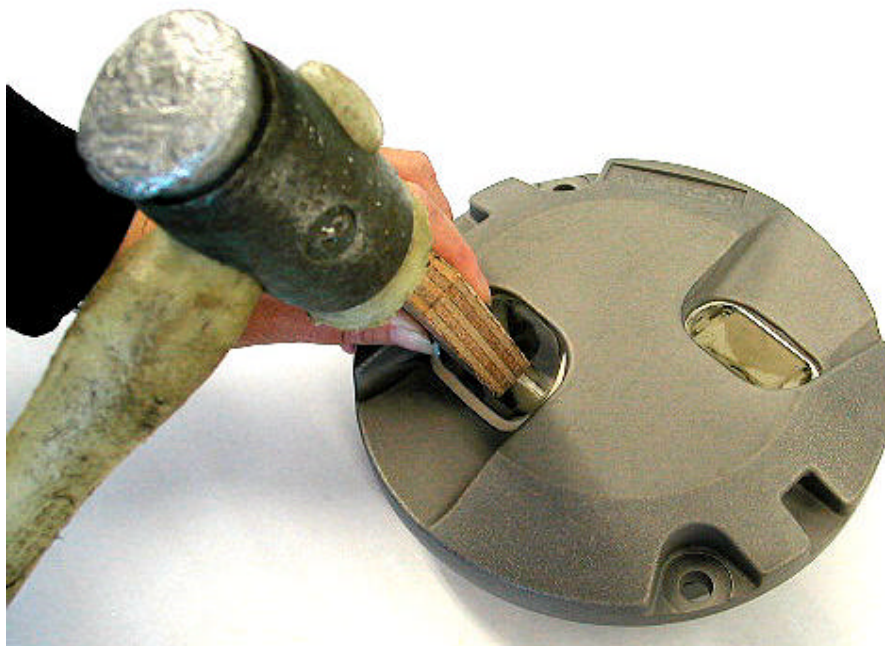

Fig. 6. Release a 'stuck' prism.
- Use a soft wood drift and soft faced hammer to dislodge the prism and gasket assembly. (See **Fig. 6**).